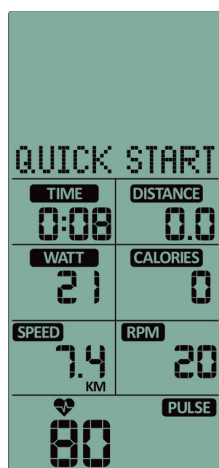

Figure 24
- A. When in standby mode, if there is an RPM signal input entering QUICK START, the matrix displays "QUICK START." The symbols for TIME, CALORIES, DISTANCE, WATTS, SPEED, and RPM light up and start counting up according to the calculated values (Figure 24).